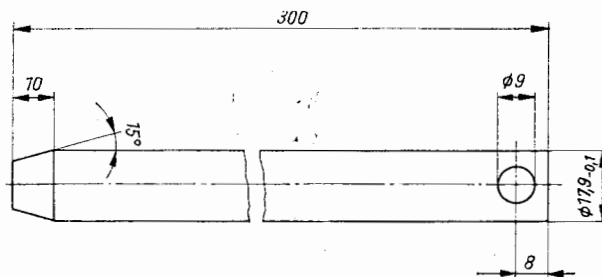

Fig. 91. Sketch for ancillary mandrel
4. Drive in the ancillary mandrel (Fig. 91) from the left-hand side to centre the bearing.